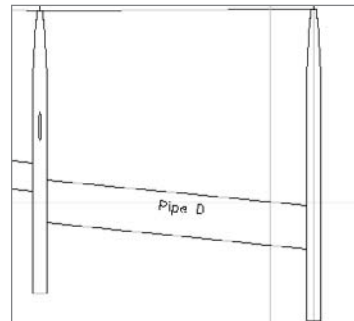

Figure 13.31
- Note that the structure style changes in both plan and profile views to reflect the new part. Figure 13.31 shows Pipe D in profile.